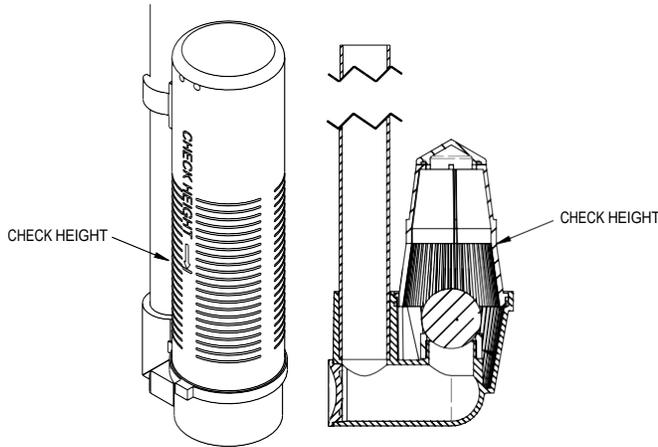

Figure 3 Air Check Valve
9. Place approximately 1 inch (25 mm) of water above the grid plate. If a grid is not utilized, fill to the top of the air check (Figure 3) in the salt tank. Do not add salt to the brine tank at this time.